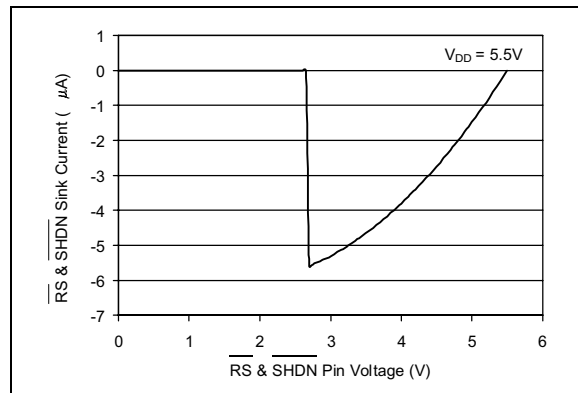

Figure 2-12: Reset & Shutdown Pins Current vs. Voltage
- See Figure 2-12 for RS and SHDN pin operation.
The Reset pin will set all potentiometers to mid-scale (Code 80h) if this pin is brought low for at least 150ns. This pin should not be toggled low when the \overline{CS} pin is low. It is possible to toggle this pin when the SHDN pin is low. In order to minimize power consumption, this pin has an active pull-up circuit. The performance of this circuit is shown in Figure 2-12. This pin will draw negligible current at logic level 0 and logic level 1.
The Shutdown pin has a Schmitt Trigger input. Pulling this pin low will put the device in a power saving mode where A terminal is opened and the B and W terminals are connected for all potentiometers. This pin should not be toggled low when the \overline{CS} pin is low. In order to minimize power consumption, this pin has an active pull-up circuit. The performance of this circuit is shown in Figure 2-12. This pin will draw negligible current at logic level 0 and logic level 1.